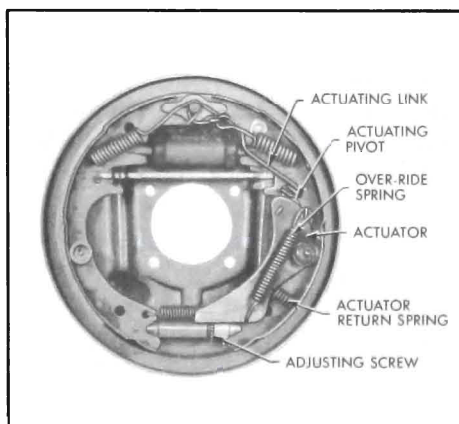

Figure 9-11—Rear Wheel Brake Assembly—Right
NOTE: It may be necessary to back off the brake shoe adjustment before the brake drums can be removed. To back off shoe adjustment, rotate shoe adjusting screw upward. See Figure 9-11.
6. Separate the brake shoes by removing adjusting screw and lock spring. Remove parking brake lever from secondary brake shoe (rear only). See Figure 9-11.
1. Remove rubber boot. Remove lock ring, then remove push rod with stop plate. See Figure 9-11.